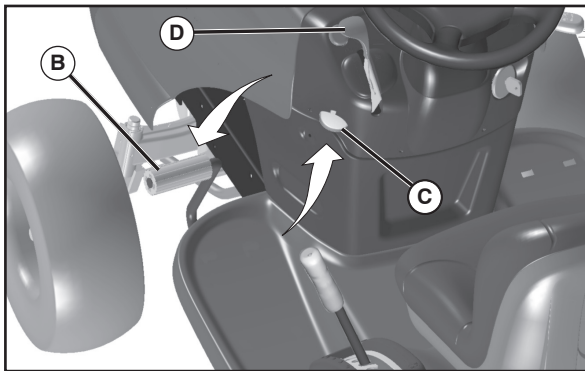

FIG. 6
TO SET PARKING BRAKE (See Fig. 6)
STOPPING (See Fig. 6)
TO USE THROTTLE CONTROL (D) (See Fig. 6)